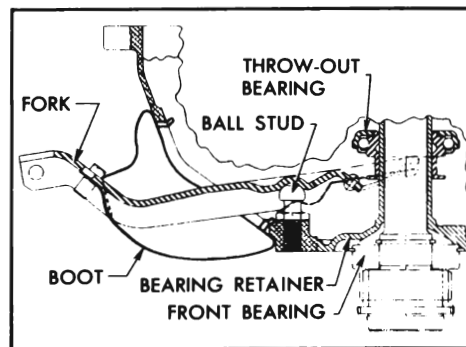

Figure 4-6—Clutch Release Fork
3. Disconnect release rod from release fork by removing clevis pin. Unhook fork boot from opening in flywheel housing. See Figure 4-6.